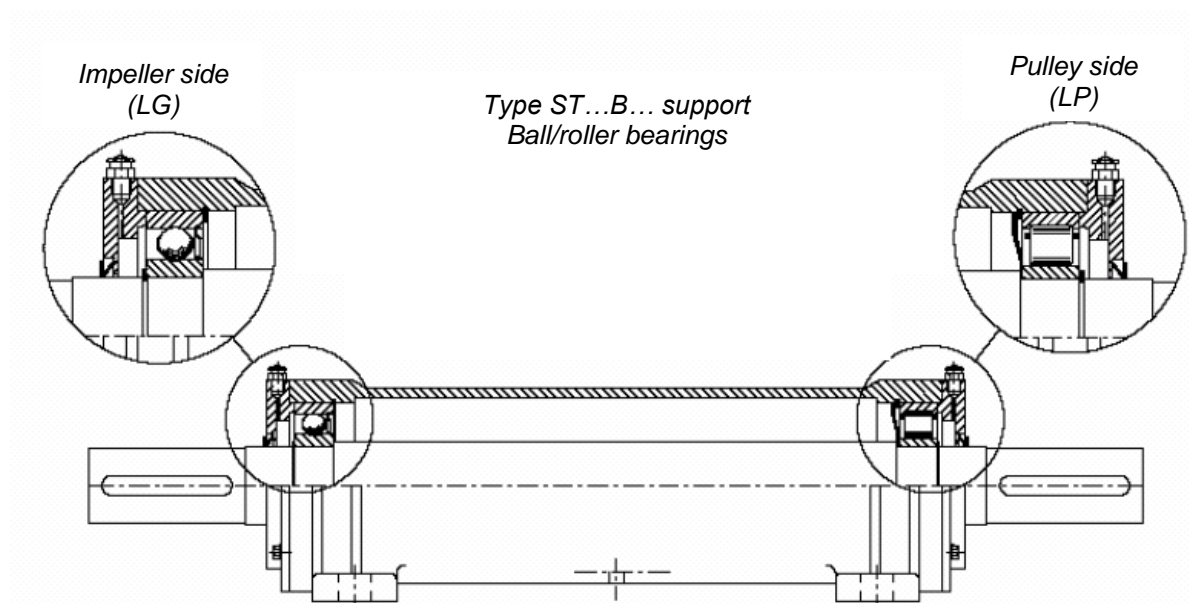

Fig. 10-11 ST...B... one-piece support with radial ball bearings on impeller side and roller bearings on transmission side
- Type ST...B... support with rigid roller bearing on transmission side (Fig. 10-11). The side with the roller bearing is punched with "CR" on the shaft.